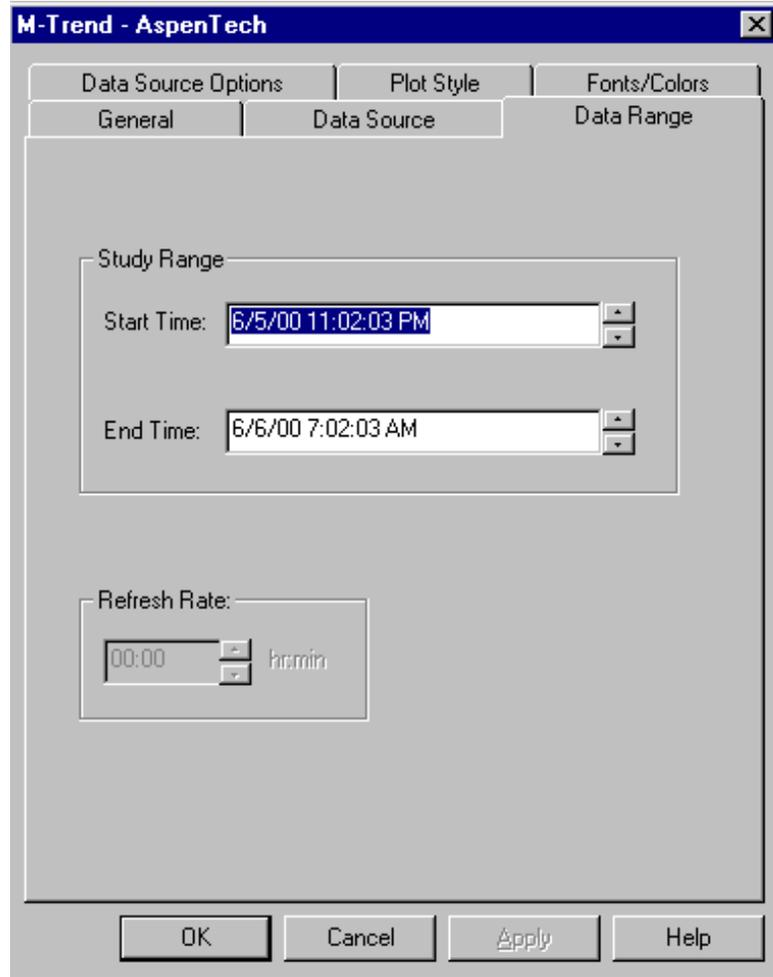

Figure 5-5: M-Trend Definition Dialog Box: Data Range Tab
2. Select the Data Range tab (Figure 5-5).